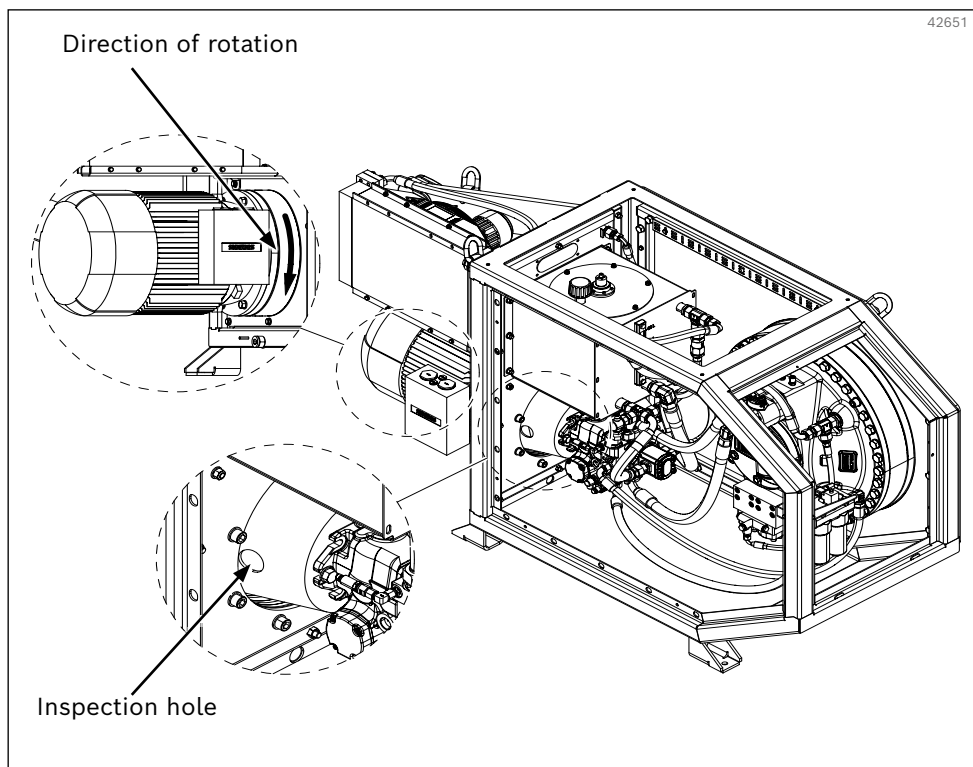

Fig. 25: Direction of rotation
- ▶ Make sure that the pump has the correct direction of rotation. The correct direction of rotation is marked with a sign placed between electric motor and motor plate, see *Fig. 25*.
- ▶ Do not touch rotating parts inside the inspection hole (see *Fig. 25*) or in the zone of rotating parts.